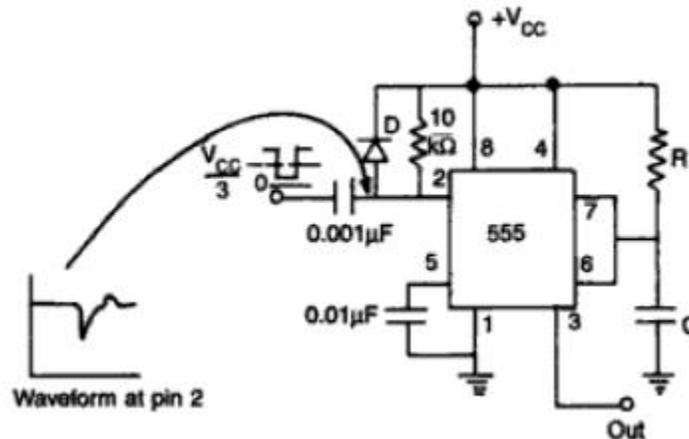

Figure 7: Modified monostable circuit
- To prevent this, a modified circuit as shown in Fig.7 is used.